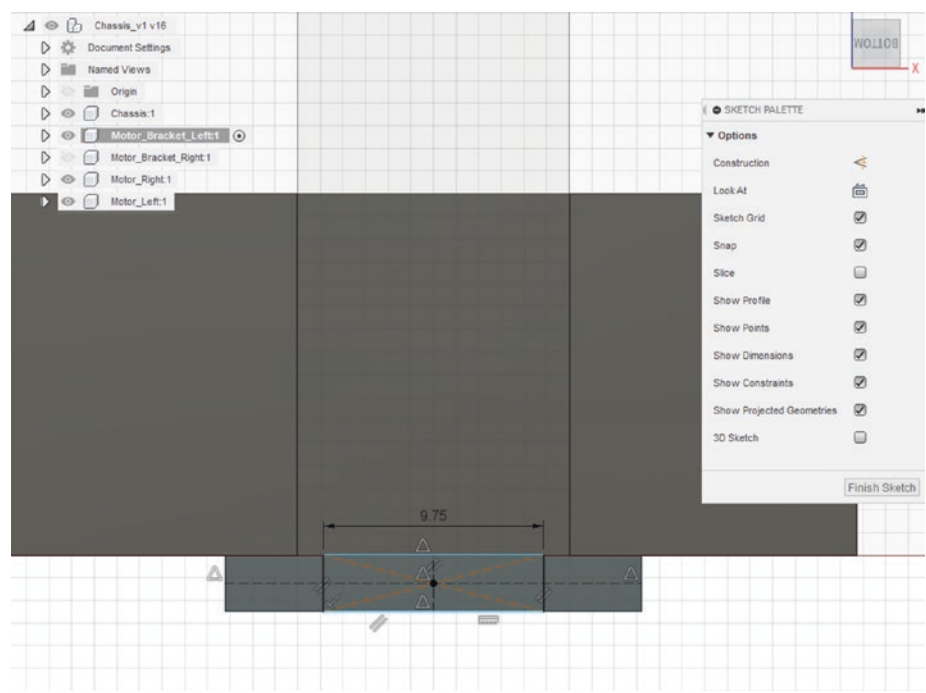

Figure 6-65. Create a rectangle that will be used to make clearance for the motor axle
32. Make a small rectangle on the bottom of the bracket that will allow full access to the shaft of the motor for the wheel couple. See Figure 6-65.